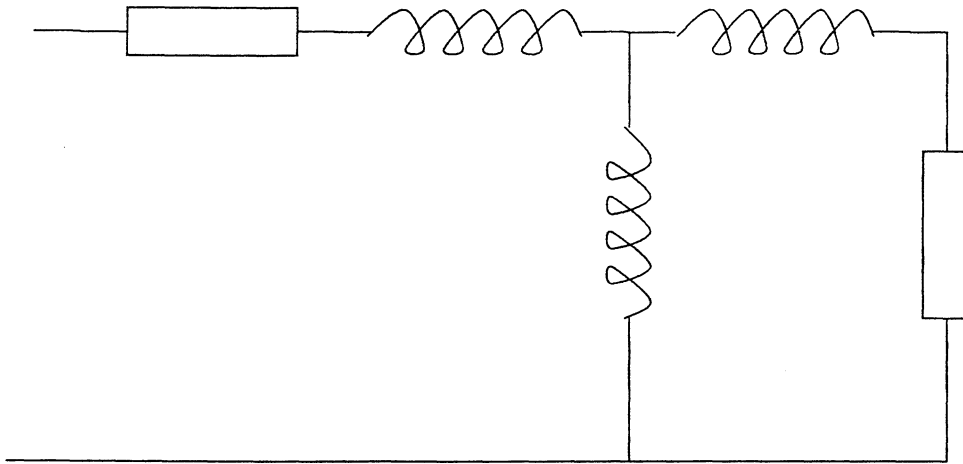

Fig.1 Per-phase induction motor equivalent circuit.
- 3 (a) Fig. 1 shows the per-phase equivalent circuit of an induction motor. Copy the diagram and label all the elements, identifying which belong to the stator and which belong to the rotor. [30%]